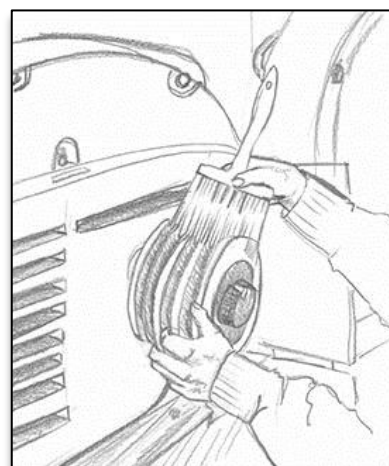

Figure 27
- Clean all the components (Figure 27);